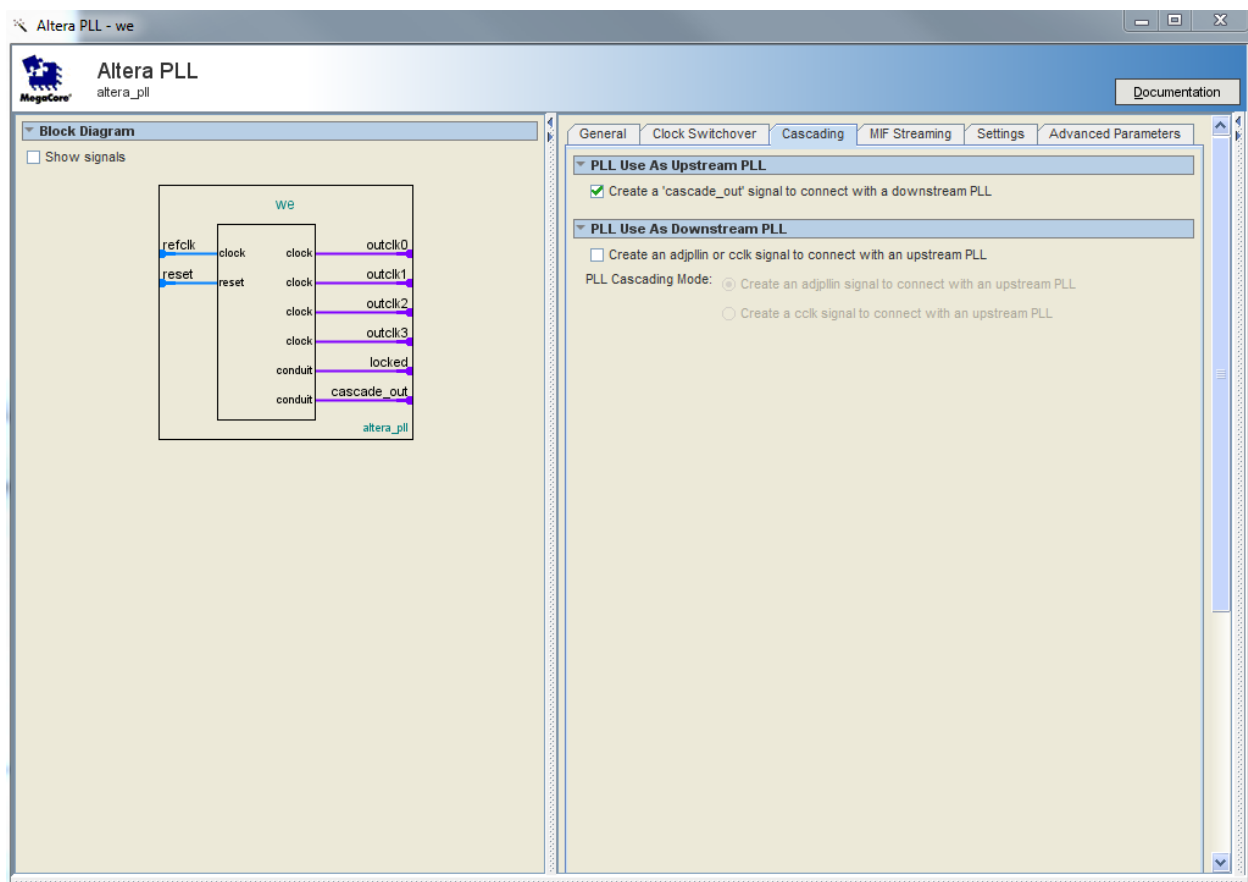

Figure 2-1: Altera_PLL megafunction Upstream Configuration
- Below figure 2-1 shows the typical upstream configuration.